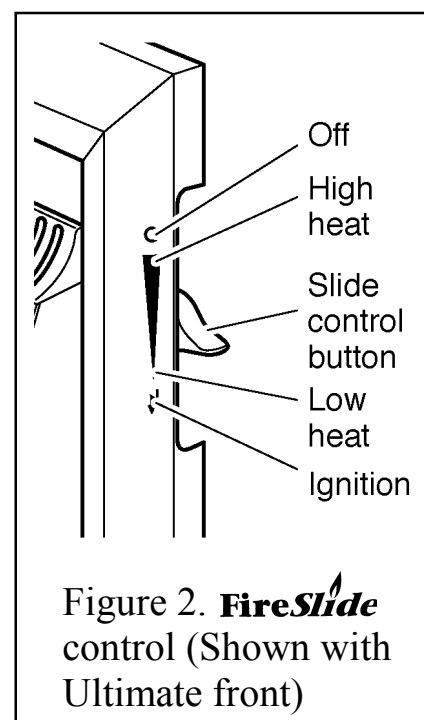

Figure 2. **FireSlide** control (Shown with Ultimate front)
The **FireSlide** control is shown in figure 2.
- ▶ If low heat is required, release the button. The button will automatically spring up to the low heat position shown in figure 2 (See note i).
- ▶ For a higher heat level slide the button upwards. The burner flames and heat output will gradually increase until the button reaches the high heat position shown in figure 2. When the button reaches the high heat position you will feel a check to its movement. **Do not slide the button above the high heat position unless you want to turn the fire off** (See note i).